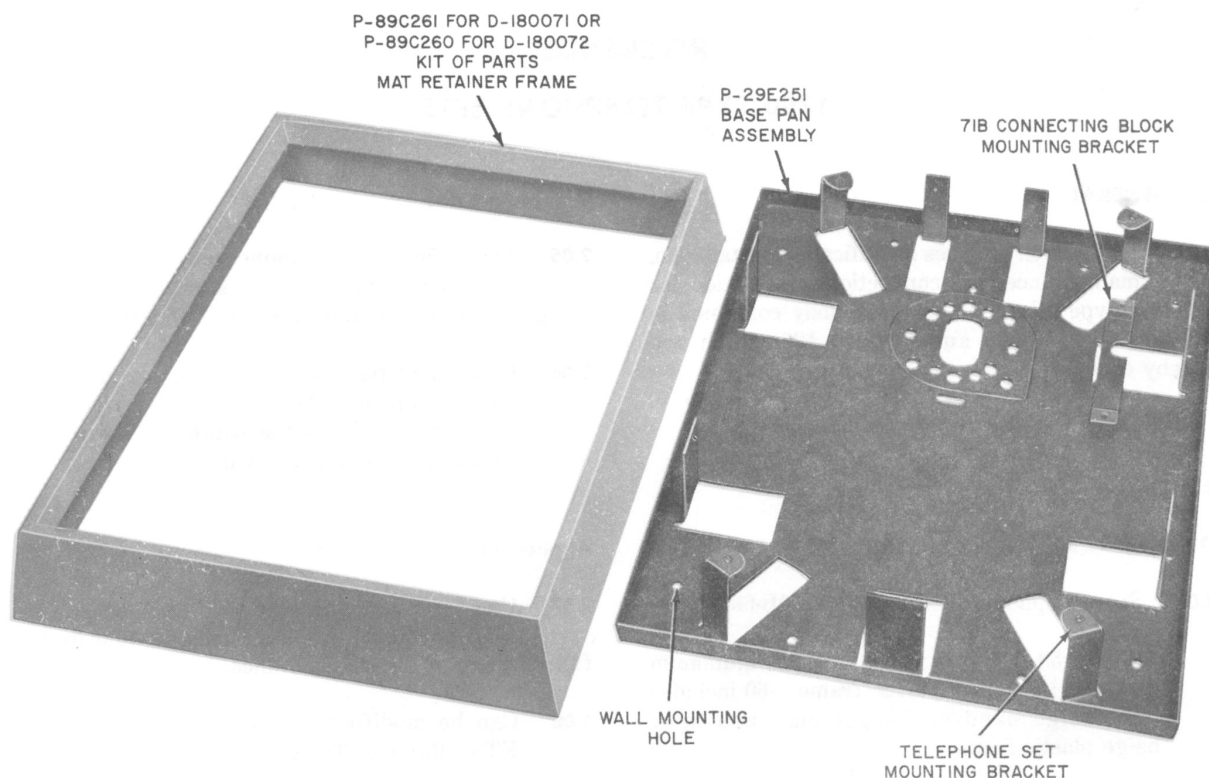

Fig. 1—D-180071 or D-180072 Kit of Parts for Surface Mounting
2.05 The 1750-type telephone set may be recess mounted or adapted for surface mounting using D-180071 or D-180072 Kit of Parts (Fig. 1).
D-180071 or D-180072 Kit of Parts (Fig. 1)